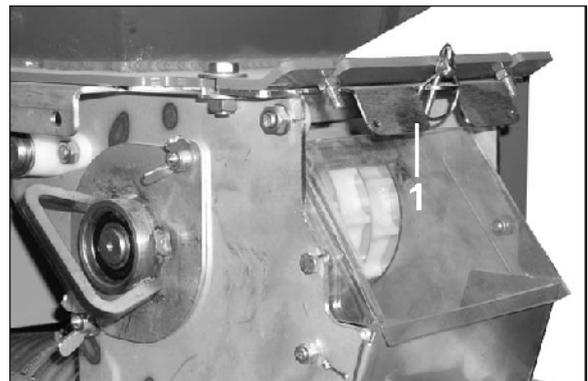

Fig. 120
2. Close the slide (Fig. 120/1), if only the dosing unit and not the hopper is to be emptied (see on page 107 ).